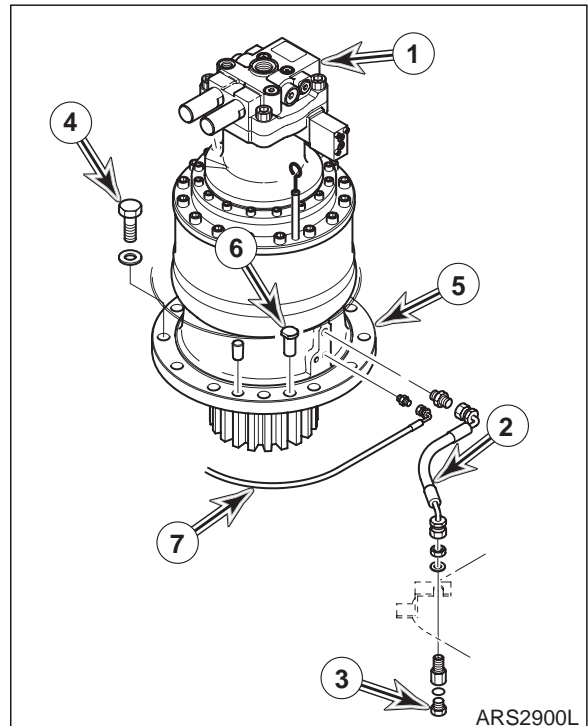

Figure 9
7. Tag and disconnect hoses from swing motor (1, Figure 9). Plug and cap hoses and ports to prevent contamination from entering hydraulic system or component.
8. Remove drain plug (3, Figure 9) from frame and drain oil from reduction gearbox (5, Figure 9).
9. Disconnect and grease lubrication line (7, Figure 9) from reduction gearbox (5).
10. Remove twelve bolts and washers (4, Figure 9) holding swing reduction gearbox (5) to frame.
11. Using a suitable lifting device, sling swing motor (1, Figure 9) and remove swing motor and reduction gearbox (5) as an assembly from unit.
**NOTE:** *There are two alignment pins (6, Figure 9), located on reduction gearbox flange.*